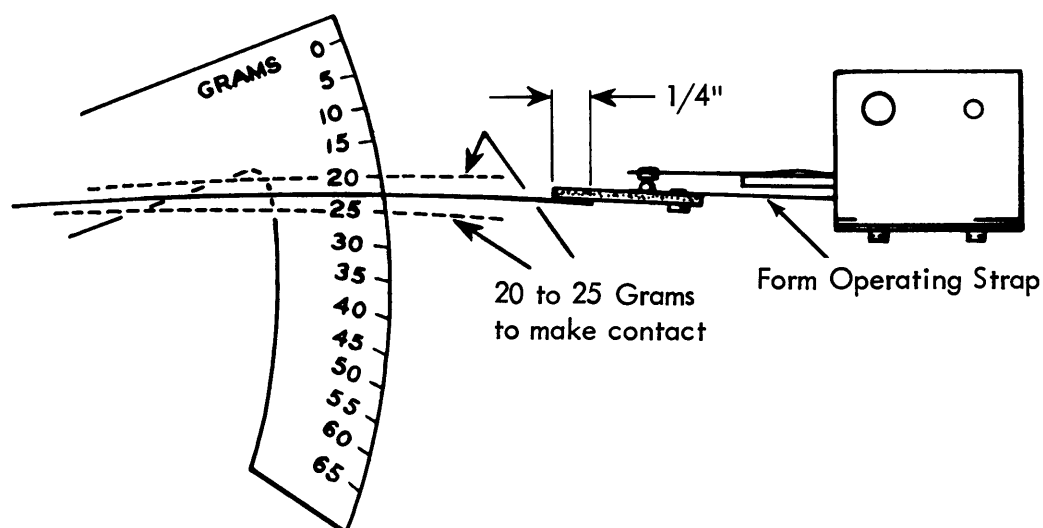
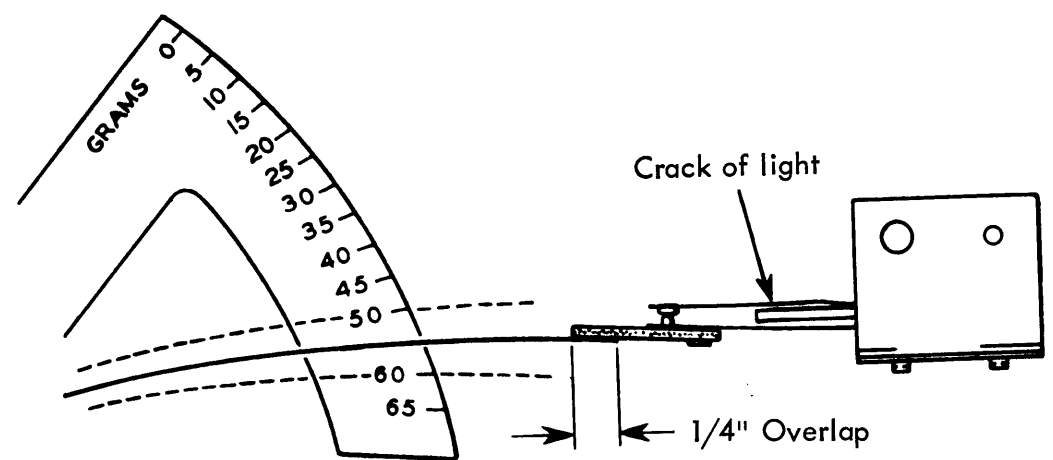

Figure 4-20. Interposer Bail Contact Adjustment
Figure 4-21. Interposer Bail Contact Rise Adjustment
2. With contact assemblies removed, form operating strap near the mounting to require 20 to 25 grams to close contacts (Figure 4-20). Place gram gage finger under phenolic pad with 1/4-inch overlap when checking adjustment; 50 to 60 grams should then be required to close contact and to raise stationary contact off support strap (Figure 4-21).